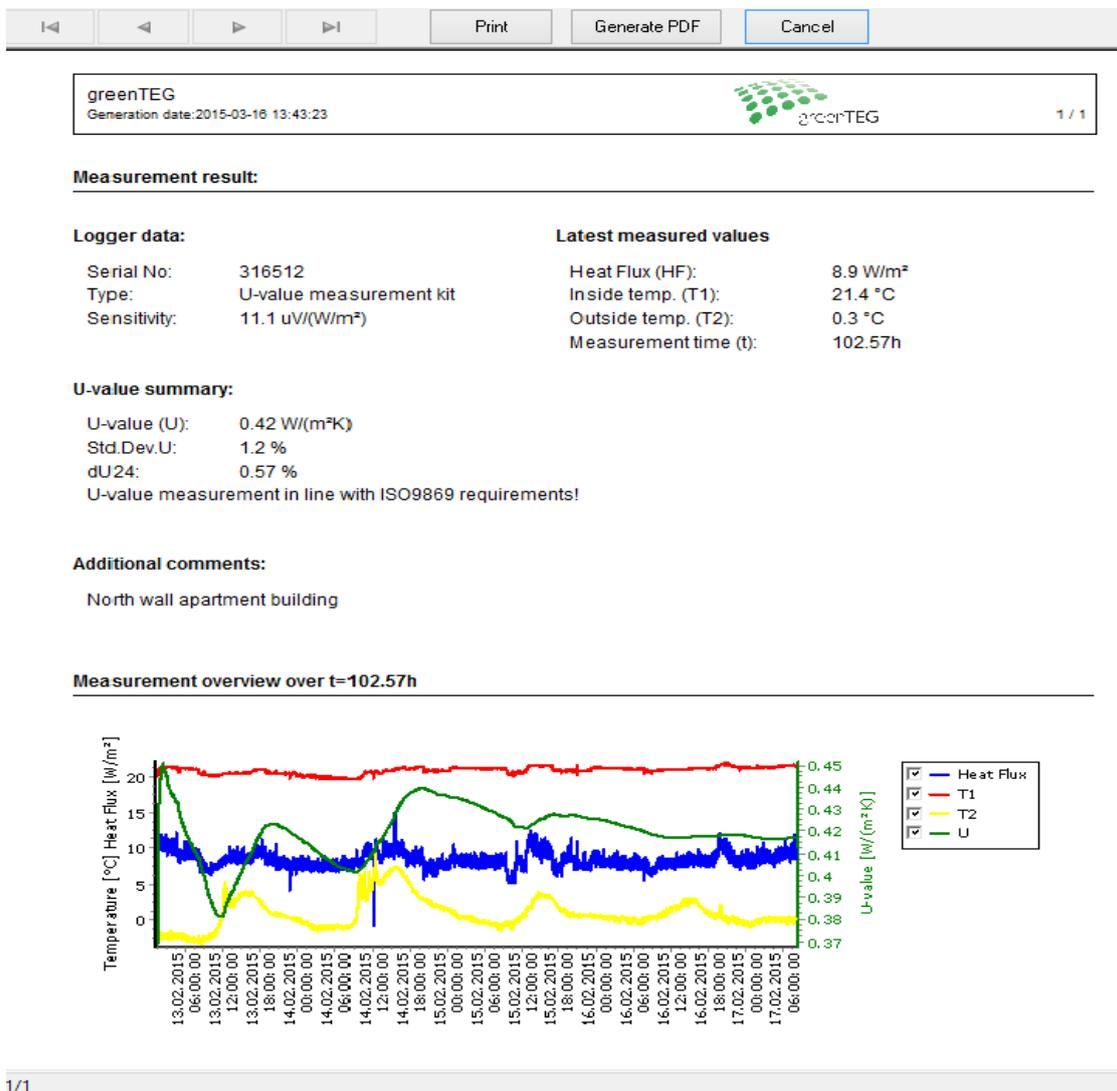

Figure 4. Software screen for saving data as a PDF file
- To save the graph as a PDF or printing it directly, push the "Generate report" button (see Figure 4). The "Generate PDF" button generates a PDF file, "Print" leads you to your printing settings.